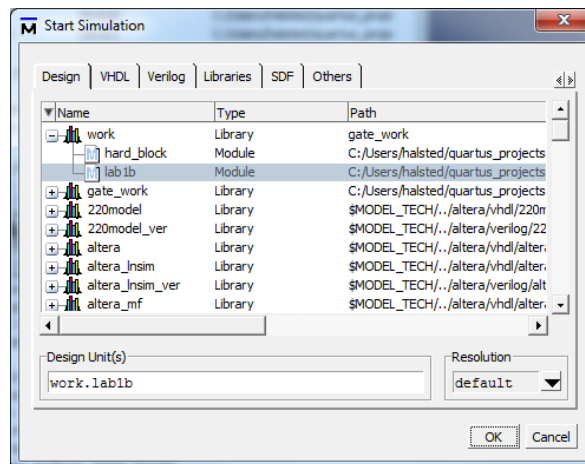

Figure 11. Selecting your Verilog netlist output file to simulate
- To simulate your design, select **Simulate > Start Simulation...** from the toolbar menu. Click on the **Design** tab and select your design file in the work library. In Figure 11, the Verilog netlist file, lab1, has been selected.